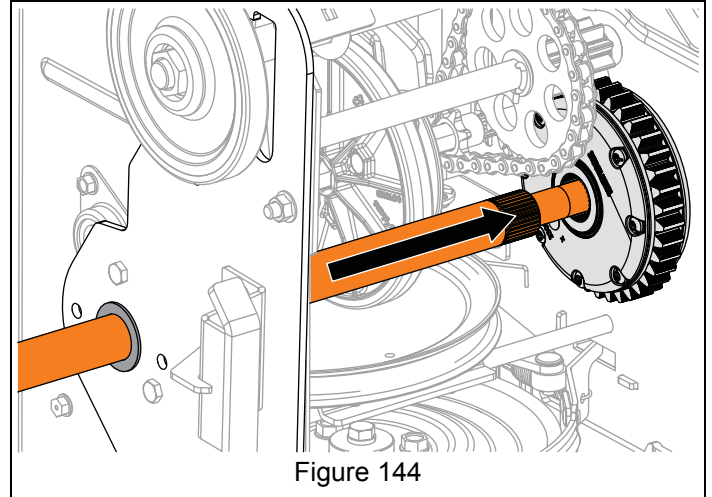

Figure 144
- Reinstall stepped-down end of long axle through side plate, frame and into differential gear. See Figure 144.